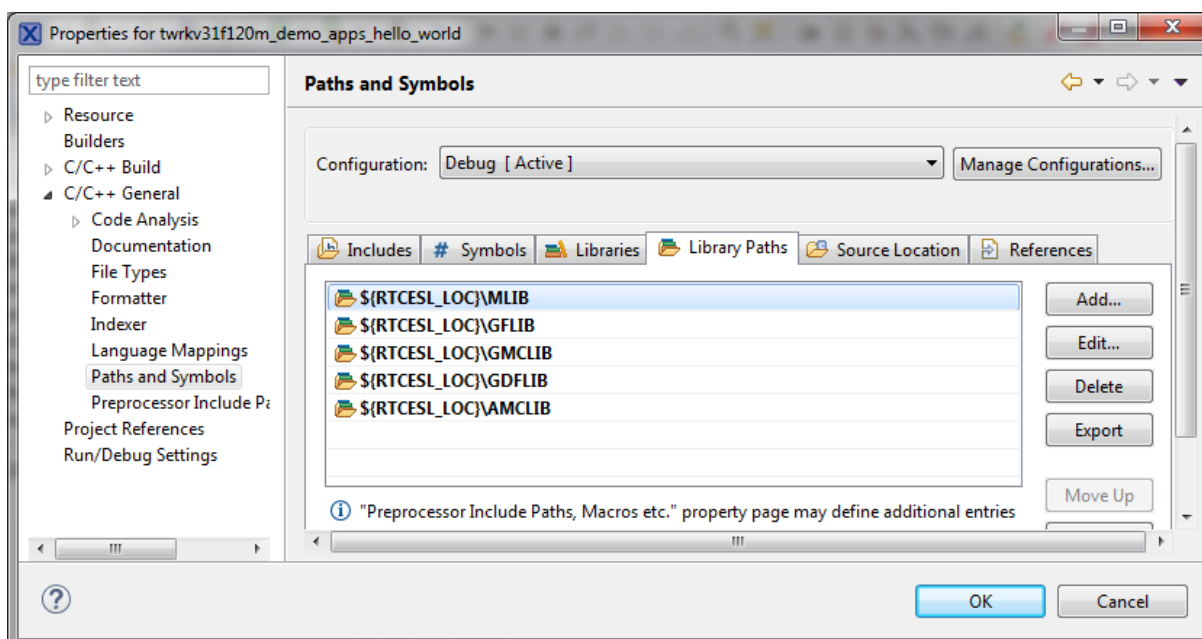

Figure 1-9. Library paths
3. In the right-hand dialog, select the Library Paths tab. See Figure 1-9.
14. Click OK, you will see the paths added into the list. See Figure 1-9.